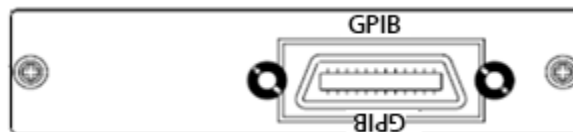

Figure 5-4: GPIB Connection
- Please make sure the lock screws are firmly hand-tightened, use a screwdriver only for the removal of screws. Figure 5-4 shows the rear panel of load. The GPIB address of the load is set on the front panel.